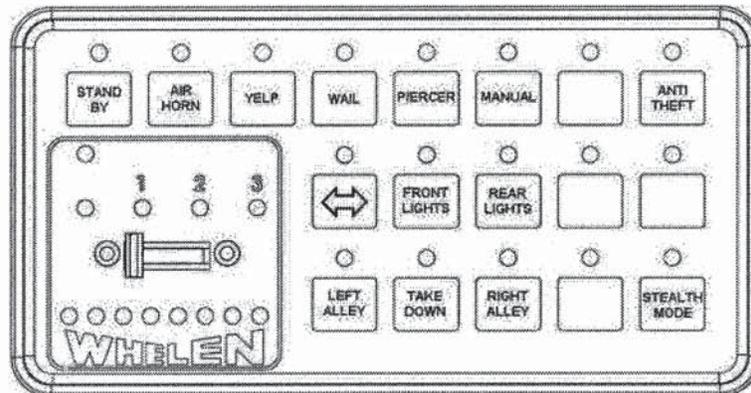

Figure 14 – Whelen – CenCom Sapphire Controller
- b. *Whelen – CenCom Sapphire Siren and Light Controller, model CCSRN3 (see Figure 14 for configuration);*